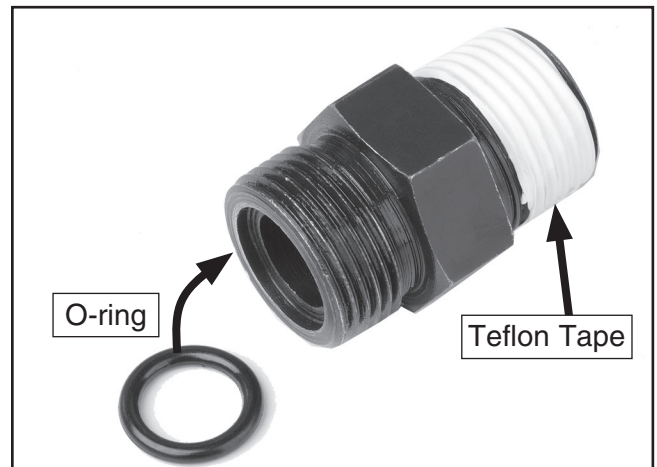

Figure 14. Pressure fitting.
18. Wrap the pressure-fitting pipe threads with Teflon tape as shown in **Figure 14**.
19. Wipe oil onto one of the 11 x 2.4mm O-rings and seat it into the O-ring seat in the end of the pressure fitting (**Figure 14**).